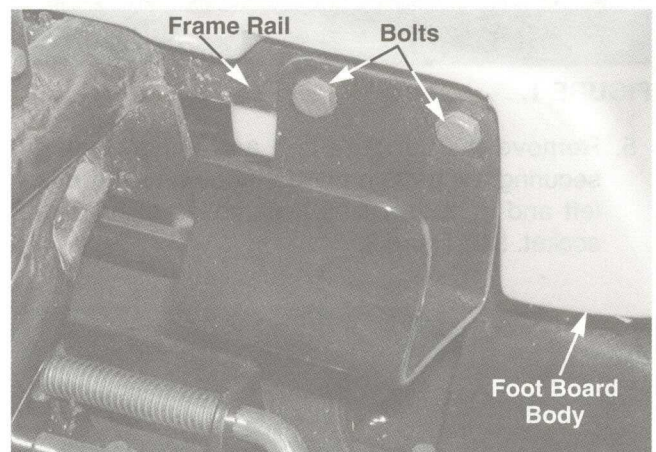

FIGURE 8.
16. Remove all four hex bolts securing the rear of the foot board body to the center frame rails using a 1/2" socket. See figure 8.